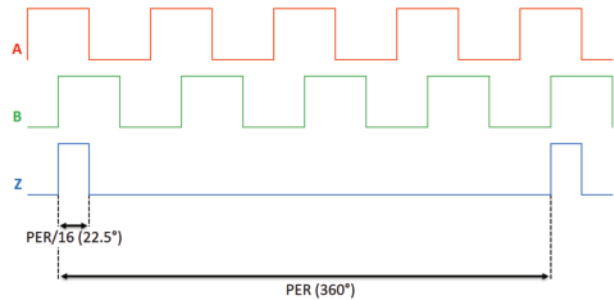

Figure 19: Calibration using incremental signals Calibration using incremental signals when rotating clockwise according to Figure 6
**Step 3:** Set  $CFGRES = 0x03$  (16 edges per 360° rotation). Adjust  $HARMCAL$  so that the duration of the Z Pulse is exactly  $PER/16$ . Please refer to Figure 19.